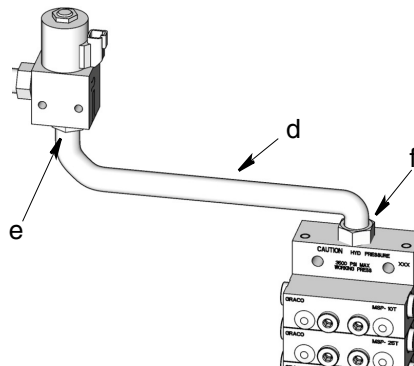

FIG. 3
4. Connect the main tube (d) to the zone valve outlet (e) (stamped with an "O") and the lubricator inlet fitting (f). (FIG. 3)